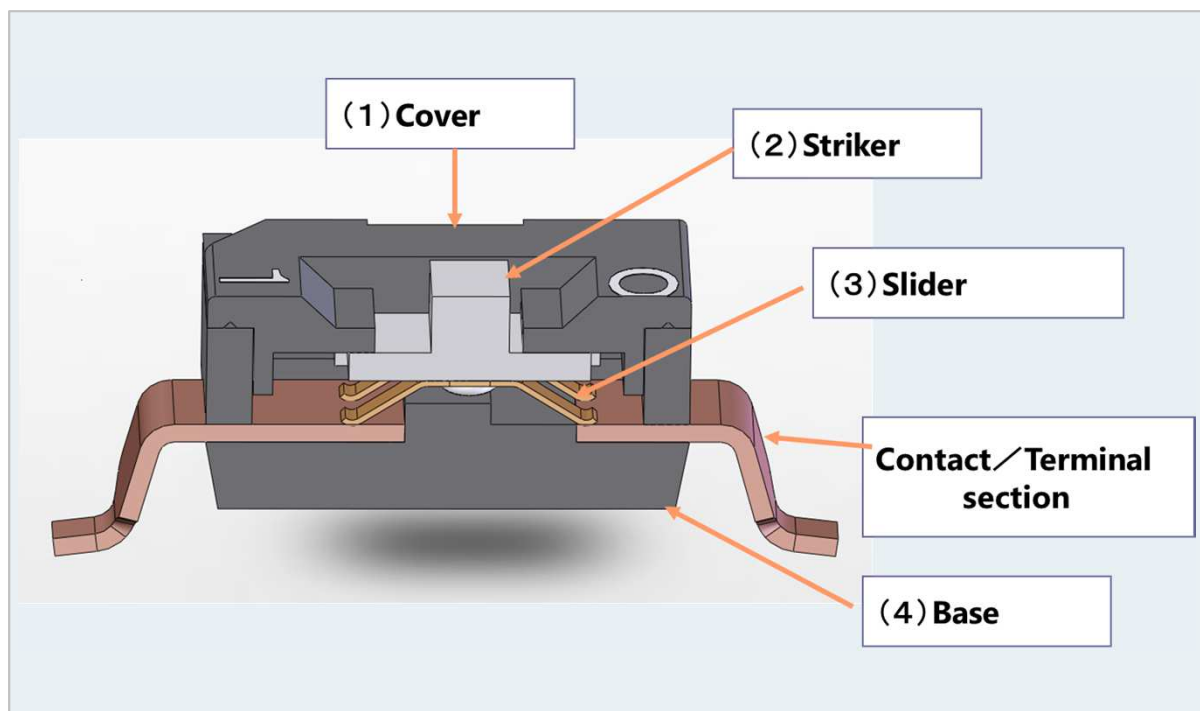

Figure 3 ● Basic structure of a DIP switches
The construction of a typical DIP switch is illustrated in figure 3. Basic parts of a DIP switch include: (1) cover (2) striker (3) slider and (4) base. The descriptions are described below.